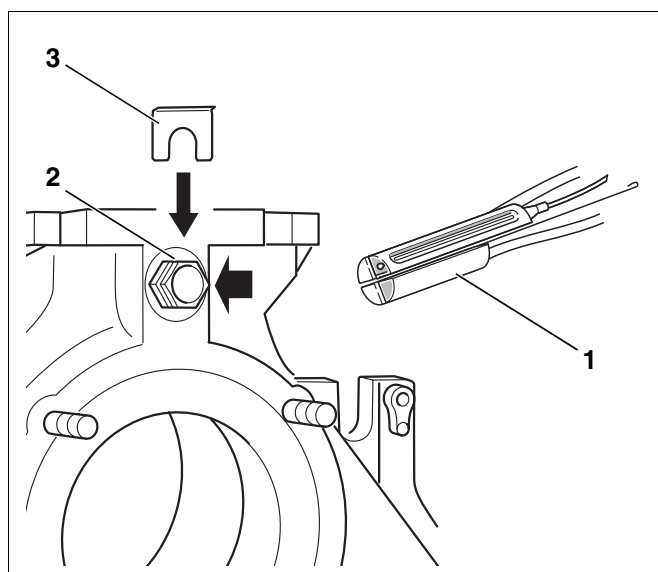

Fig. 62 Installing the temperature sensor set
The temperature sensor set connected to the control unit (consisting of three temperature sensors and one sensor blind piece Fig. 62, [1]) is installed in the sensor well R $\frac{3}{4}$.
- ▶ Route capillary pipe sensor to the measuring port of the boiler and then guide the sensor into the sensor well (Fig. 62, [2]) and secure with the retaining clip (Fig. 62, [3]).